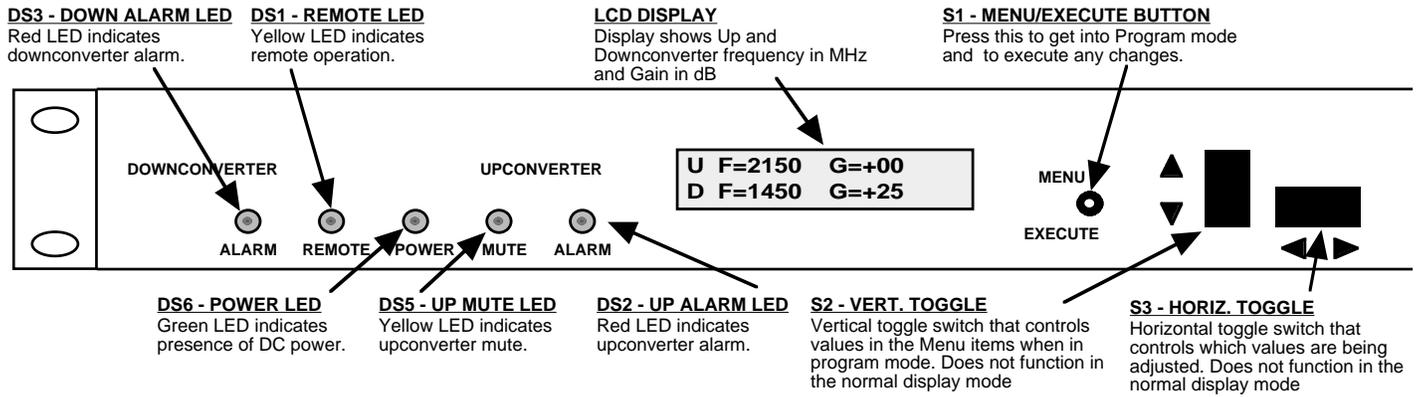

Figure 2.2 Model 2017-04A Front Panel Controls and Indicators
- 8.) Be sure DS6 (green, DC Power) is on and DS2 (red, Alarm) is off (Figure 2.2).
- 7.) Be sure DS6 (green, DC Power) is on and DS2 (red, Alarm) is off (Figure 2.2).
2.5.1 Functions - This section describes operation of the front panel controls. There are three operator switches, the LCD display and alarm indicator LEDs. All functions for the equipment are controlled by these components. The functions are (see Figure 2.2):
Alarm indications appear on the LEDs (see figure 2.2).